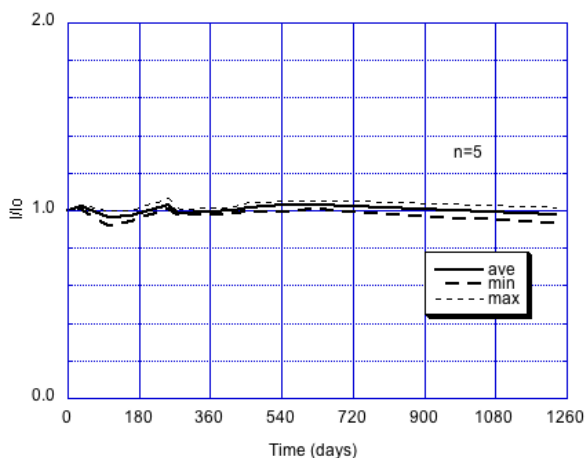

Fig. 8 - Long term stability of FECS44-100
Figure 8 displays long term stability data of FECS44-100 showing the sensitivity to 100ppm of NH₃ measured using the basic measuring circuit. The Y-axis shows the ratio of output current in 100ppm of NH₃ at any point in time (I) over output current in 100ppm of NH₃ on the first day of the test (I₀). Sensors were stored unenergized in normal air between each measurement day. This chart demonstrates very stable characteristics for more than 2 years.